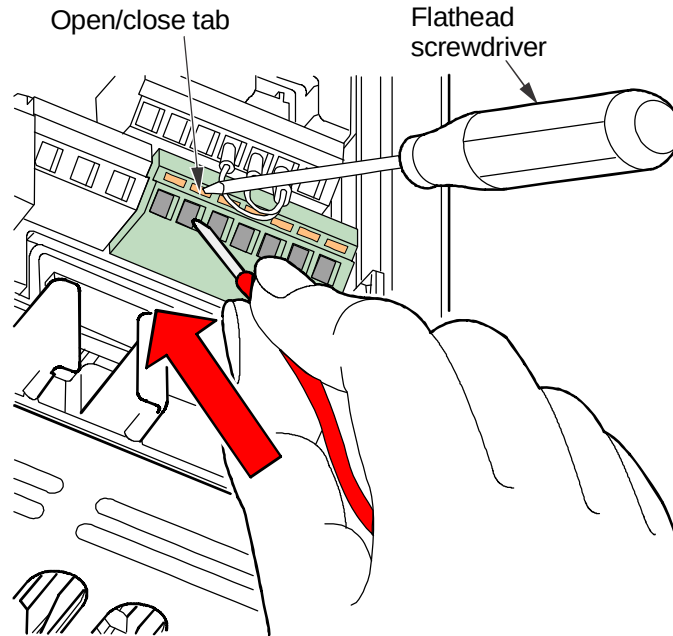

Figure 21: Wiring Analog Input Devices to the VFD68 Control
3. Push down on the orange tab to open the terminal (Figure 21).